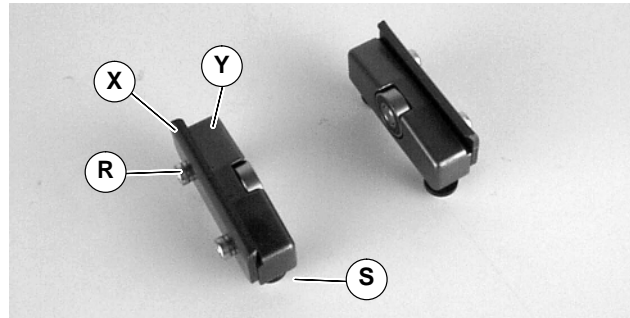

Figure 13
1. Gather components (Figure 13).